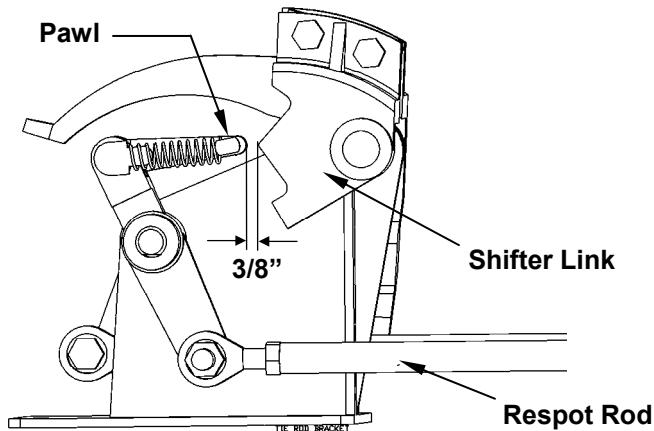

Figure 4.2-23
20. Close the respot cells slightly so that the center highest point of the shifter link is directly opposite the pawl (see Figure 4.2-23). Adjust the length of the respot rod so that the pawl clears the center highest point by 3/8 inch.